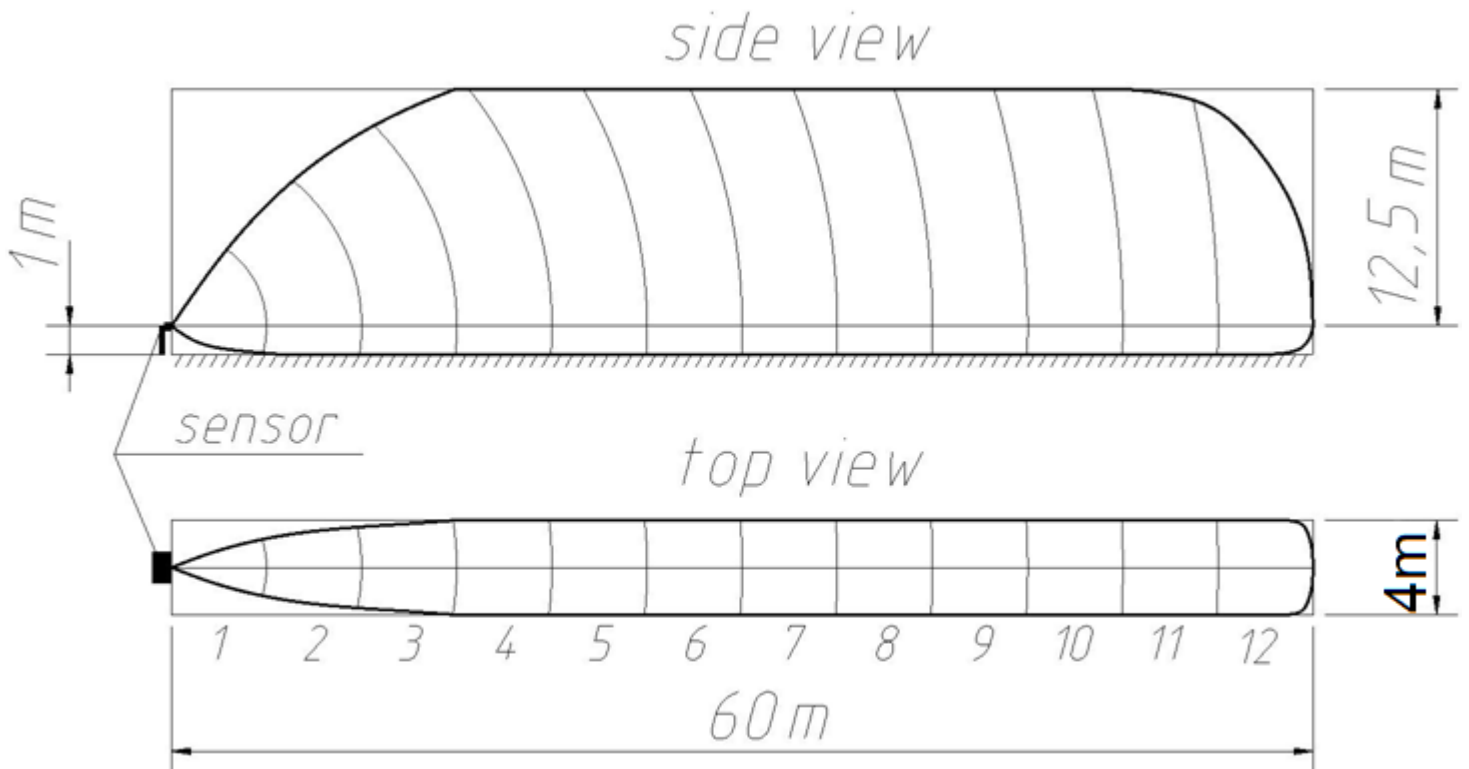

Figure 1.1 – Maximum detection zone of sensor installed on pole 1 m from ground
- 1.2.1 Figure 1.1 and Tables 1.1, 1.2 show configuration of the detection zone of sensors mounted on poles, minimum and maximum detection range, detection width and detection height.